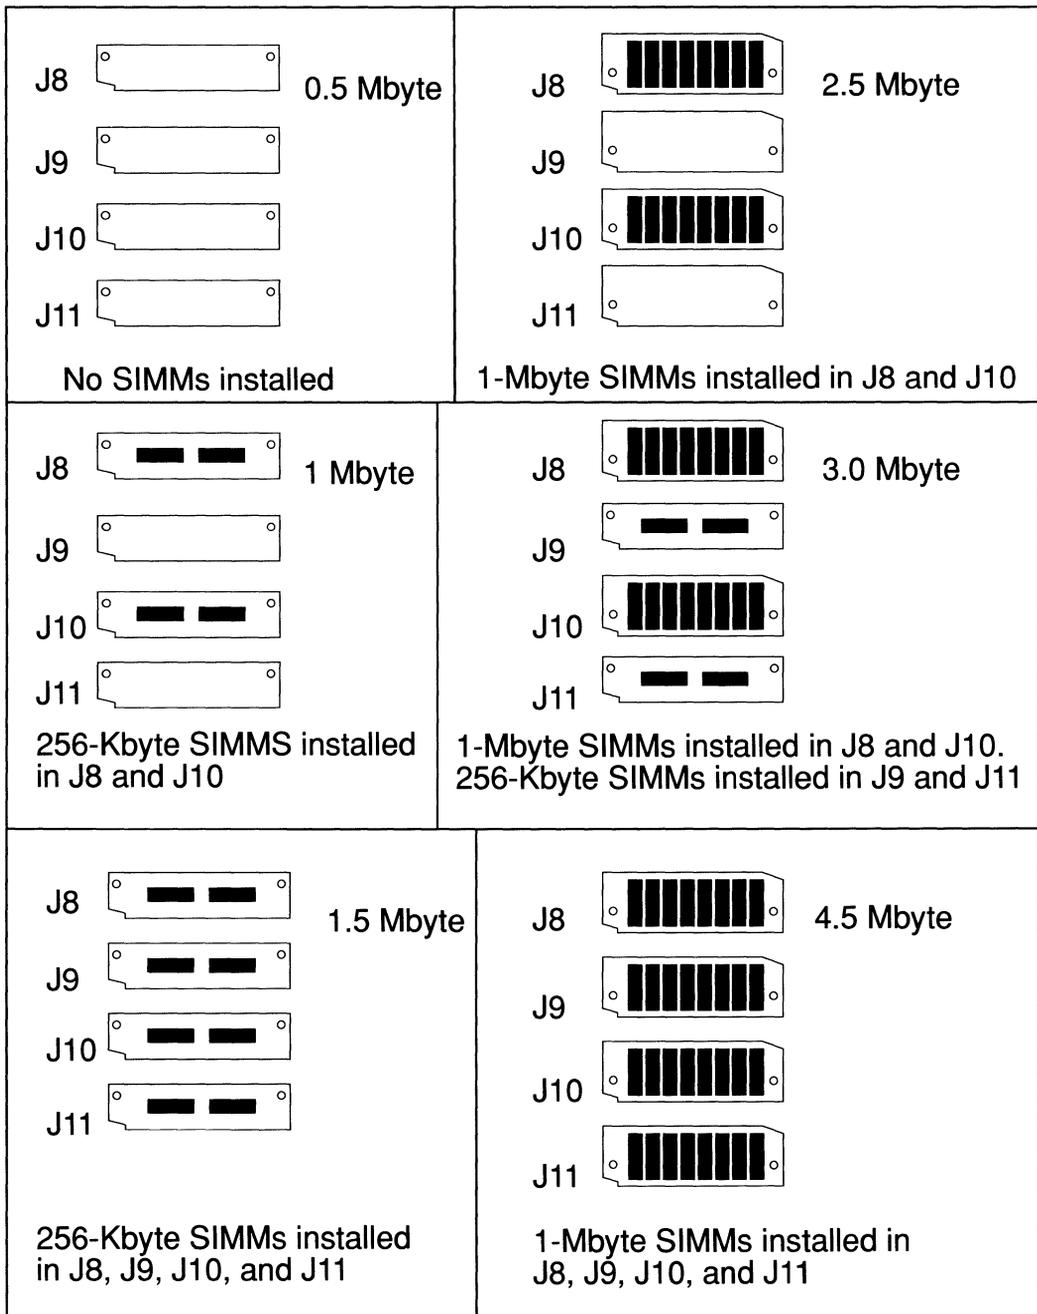

Figure 2-12. Allowable SIMM Configurations
7. Allowable configurations for the SIMMs in sockets J8 through J11 are shown in Figure 2-12. Install the SIMMs in sockets J8 through J11 as shown in Figure 2-12 and described below.